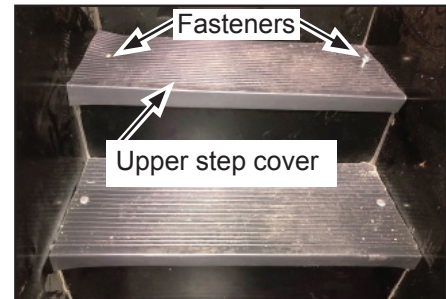

Figure 1
5. With the entry door open, remove the upper step cover by removing the (2) screws from the cover with a wide, flat blade screwdriver. Set the screws and cover aside for reinstallation. See Figure 1.